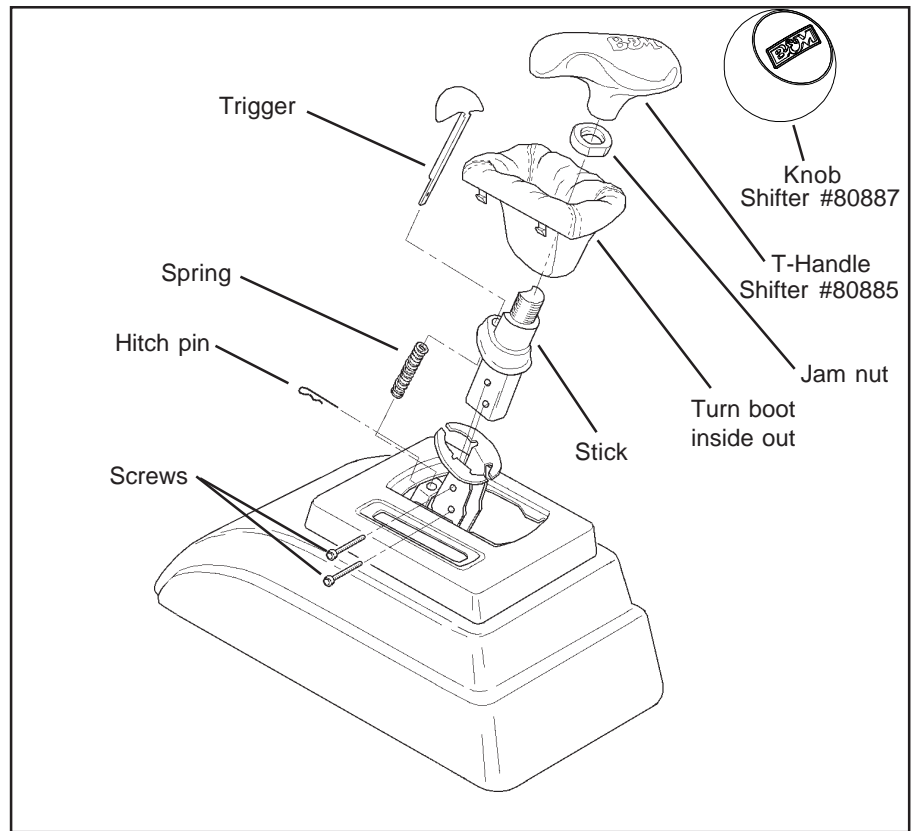

Figure 12
**STEP 31.** Remove the stick and trigger from the shifter. Remove the two screws that secure the stick to the shifter and remove the hitch pin that secures the trigger to the mechanism. See **figure 12**. Install the leather boot. Turn the boot inside out and slide it over the bottom of the stick. Put the stick back in place on top of the mechanism, reinstall the two screws and tighten. Slide the trigger back through the stick and the steel trigger plate on the shifter. Reinstall the hitch pin. Pliers are the best tool for this installation.